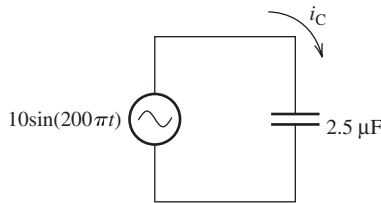

FIGURE P4.11 Circuit for Problem 4.11.
- 4.11 (A) The voltage across a 2.5- μF capacitor is $10 \sin(200\pi t)$ V as shown in Figure P4.11. Find an expression for (a) i_C through the capacitor and (b) the stored energy.